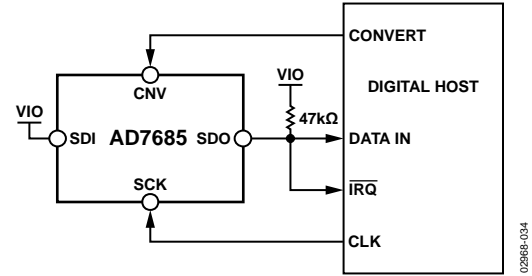
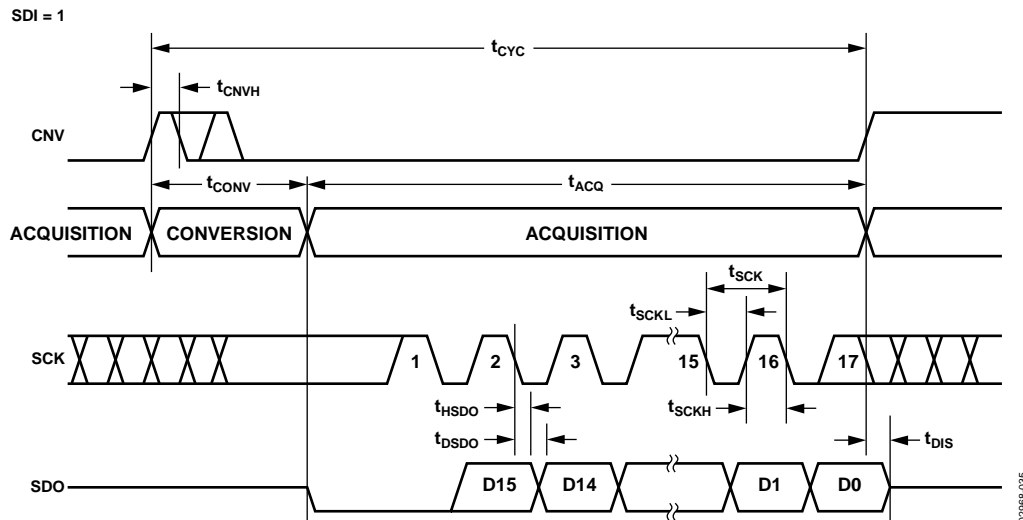
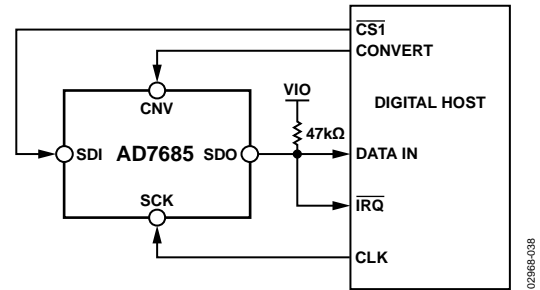
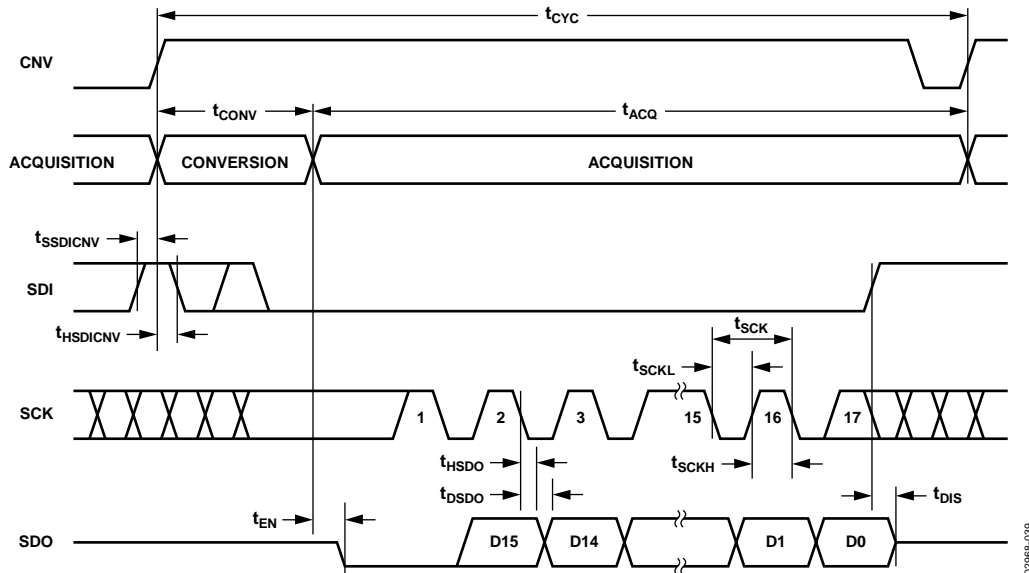

Figure 36.  $\overline{CS}$  Mode 3-Wire with BUSY Indicator Connection Diagram (SDI High)
Figure 37.  $\overline{CS}$  Mode 3-Wire with BUSY Indicator Serial Interface Timing (SDI High)
Figure 40. CS Mode 4-Wire with BUSY Indicator Connection Diagram
Figure 41. CS Mode 4-Wire with BUSY Indicator Serial Interface Timing
- In the  $\overline{CS}$  mode, if CNV or SDI is low when the ADC conversion ends (see Figure 37 and Figure 41).
The connection diagram is shown in Figure 36, and the corresponding timing is given in Figure 37.
The connection diagram is shown in Figure 40, and the corresponding timing is given in Figure 41.